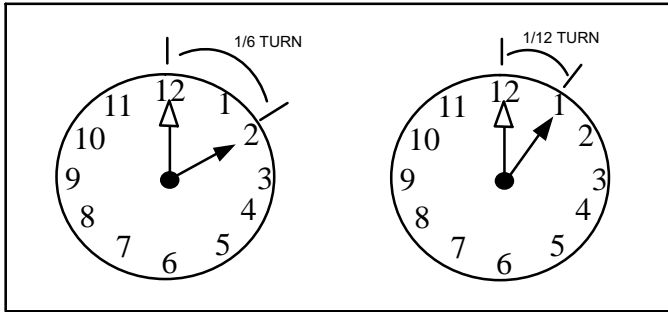

FIGURE 11
- *Without Torque Wrench:* Finger tighten and use an appropriately sized wrench to turn an additional 1/6 turn clockwise as illustrated in figure 11.
4. Replace the stem caps and secure finger tight, then tighten an additional one-sixth (1/6) of a turn as illustrated in figure 11.
- D Replace the stem caps and secure finger tight, then tighten an additional one-sixth (1/6) of a turn as illustrated in figure 11.